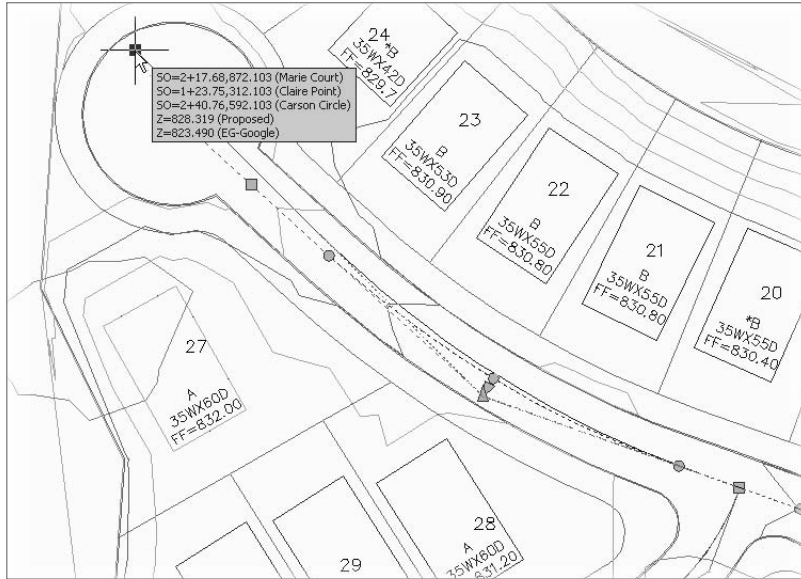

Figure 14.12
3. Select the Parker Place alignment and make a grip-edit to Parker Place's northern end, dragging it up and further north, as shown in Figure 14.12.